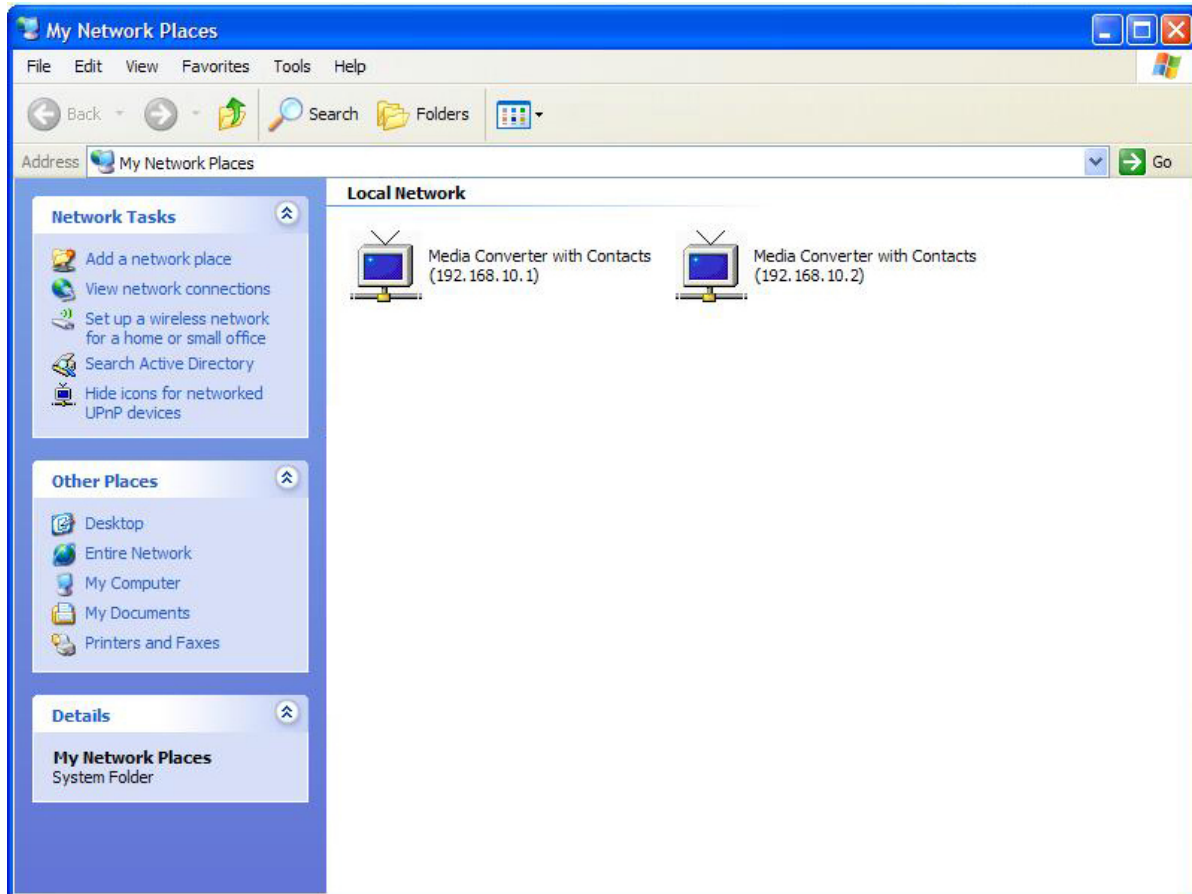

Figure 26 – Windows My Network Places
- › **Media Converter with Contacts (192.168.10.1)** and **Media Converter with Contacts (192.168.10.2)** will appear in the window as shown in Figure 26.